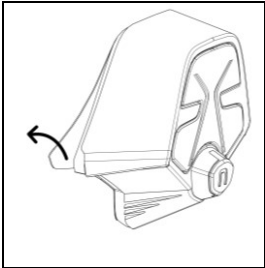

Fig. 4
- Remove the protective film from the double-sided adhesive tape (Fig. 4).